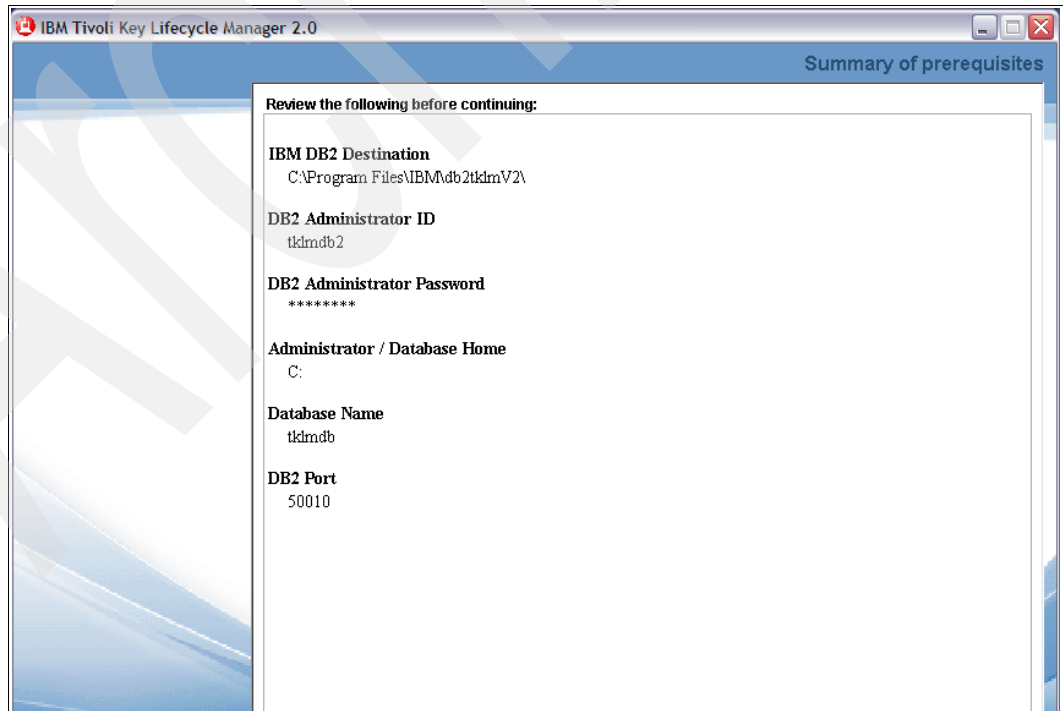

Figure 6-6 TKLM\_v2\_review
6. A summary of your entries is displayed (Figure 6-6). Verify that the entries are correct and click **Next**.